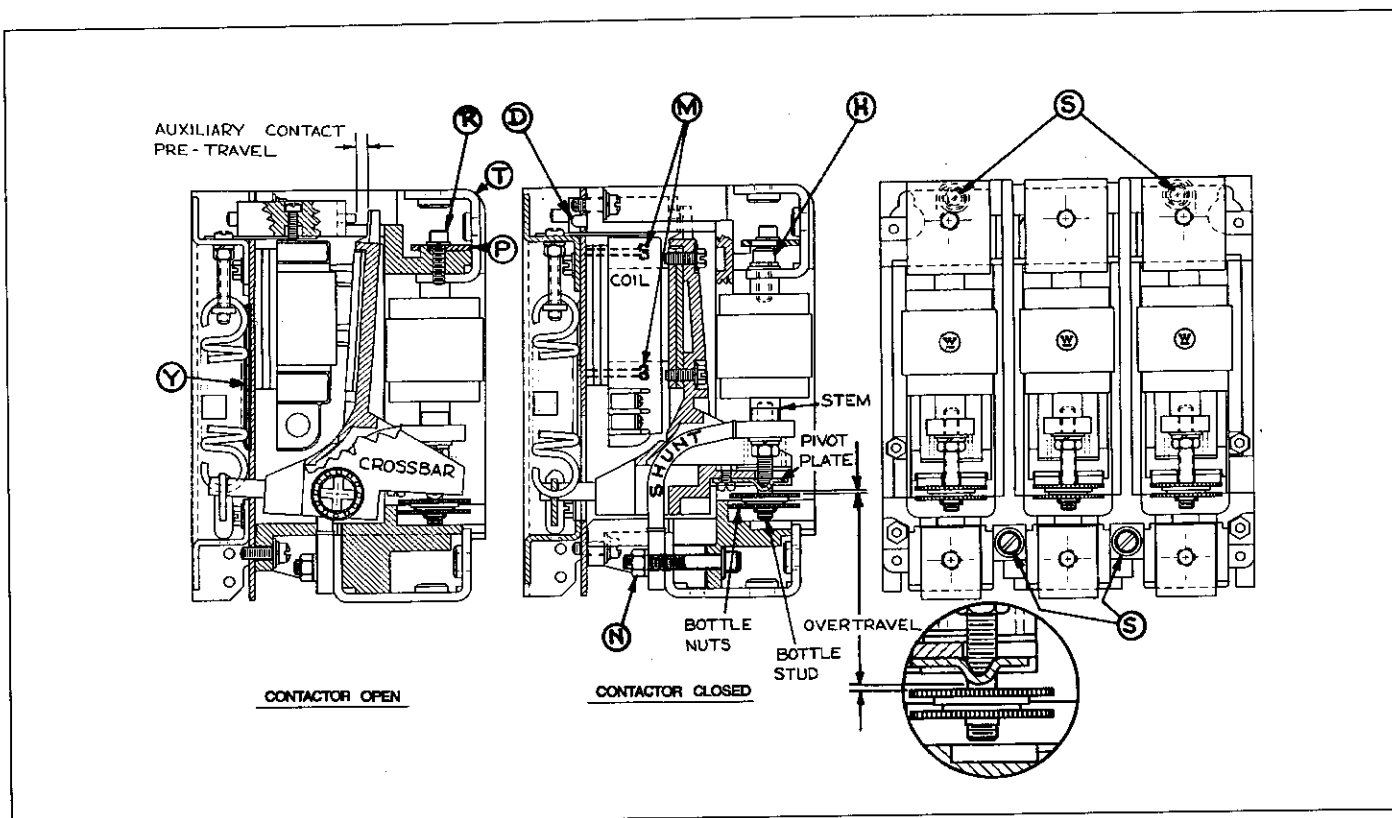
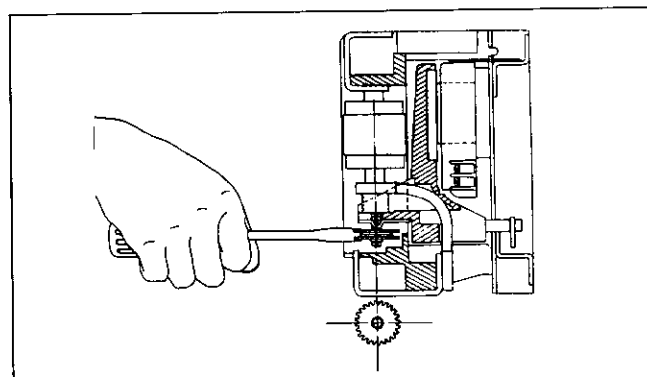

Fig. 5 V201 Contactor
Fig. 6 Adjusting Bottle Nuts
A vacuum contactor is affected by atmospheric pressure on the bellows of the vacuum bottles. Up to an altitude of 3300 feet, the contactor is designed to tolerate normal variations in barometric pressure. If the contactor is to be operated over 3300 feet above sea level, the contact force should be increased by adding shims (Part No. 7874A17H01) to each bottle stud **between the shunt and hex nut holding the shunt**. The shims **must not be between the shunt and the stem of the bottle**. See center view of Fig.5 There are six shims attached to one flange of the mounting plate for possible use if required. Apply the shims per Table III.
Gross loss of vacuum is highly unlikely, but it can be checked easily. With the contactor open, pull downward on the bottle nuts, one pole at a time, using an effort of about 20 pounds. If the bottle nuts, (see Fig. 5 and Fig. 6) move easily away from their pivot, the vacuum has probably failed and the bottle must be replaced.
If for some reason a coil must be changed, proceed as outlined below, referring to Fig. 5.
The nominal .34 gap show for the L63 auxiliary contact (normally-closed) in the left upper portion of Fig. 5 is important. If the gap is too big, the "hold" winding of the operator coil will not be inserted as the contactor closes, and the pick-up winding will burn out, because the pick-up winding is only intermittently rated. If the gap is too small, the hold winding will be inserted too soon, reducing the force to "hold" before the contactor is closed, and producing an oscillation like a doorbell. In a particular contactor, the .34 gap may need slight adjustment to avoid these problems. The key is not the measurement, but the performance of the magnet.
Contact material vaporizes from the contact faces during every interruption and condenses inside the bottle. This is normal, and is provided for by **overtravel**, or wear allowance. When the contactor is fully closed, there is a gap underneath the lower bottle nut and the pivot plate. See Fig. 5. As the contacts wear, this gap decreases. When any gap goes **below .020 in.**, all the bottles should be replaced. Use the .020 in. thick fork-shaped overtravel gauge supplied for this measurement, Part No. 5259C11H02.
If the magnet chatters, look for mechanical interference that prevents the magnet from sealing. If there is no interference, then the magnet itself may be misaligned. The magnet gap can be seen from the left and right sides with the help of a flashlight. A screwdriver inserted into one of the long slots (Y-Fig. 5) can be used as a lever to put a corrective set into the mounting plate around the magnet. It should not be necessary to do this unless the contactor has been damaged and it can be seen that the armature does not fit against the magnet. A poor magnet to armature fit usually produces a high dropout voltage and/or chatter.
2. Unbolt the rear shunt ends by removing fastener (N) behind the bottom terminal straps. Refer to Fig. 5.
3. Loosen the bottle nuts on the moving stems, using a screwdriver, as shown in Fig. 6. Turn the blade clockwise from a notch in one nut across to a notch in the other nut, so that the nuts turn in opposite directions to each other. Once loose, back both nuts out until there is clearance to the pivot plate.
5. Insert an Allen wrench through the two holes in each terminal (T) into the two  $\frac{1}{4}$  x 20 hexsocket head screws (R). Loosen the screws until terminal (T) is free.
12. Check that the bottle stud (Fig. 5) does not rub on the sides or back of its slot in the crossbar arm. If the stud rubs on the rear, it may be necessary to remove the subassembly and reshape the shunt. If the stud rubs on the side of the slot, loosen bolt (H) with an Allen wrench inserted through the terminal hole, position the bottle to suit, then retighten bolt (H).
15. Close the contactor by energizing coil. Set the overtravel gap on the center pole at  $.050 \pm .005$  inch by turning the bottle nuts by hand. Once the gap is achieved, the bottle nuts should be finger-tight, one against the other. Lock the bottle nuts with a screwdriver inserted from the front, turning the screwdriver counterclockwise with the blade fitted from a notch in one bottle nut across to a notch of the other bottle nut, so that the nuts turn in opposite directions to each other. Refer to Fig. 6.
16. Adjust the bottle nuts on the two outer poles to make-circuit (touch) simultaneously with the center pole, using volt-ohmmeters or test lamp circuits. Lock the bottle nuts with a screwdriver per Fig. 6.